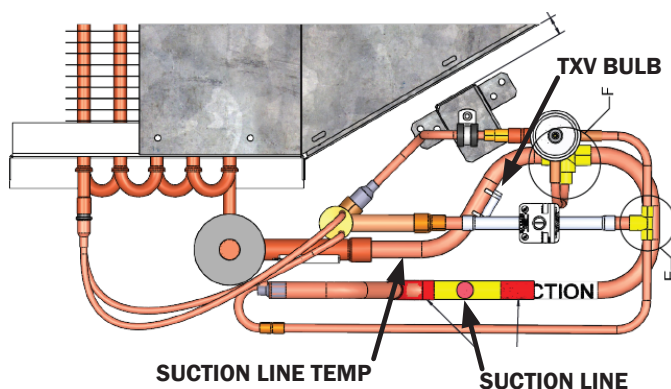

Fig. 101 Obtain pressure/temperature readings from these points
1. Obtain the suction pressure from the access port. Obtain the suction line temperature from the area near the TXV bulb at the outlet of the evaporator coil (Fig. 101).